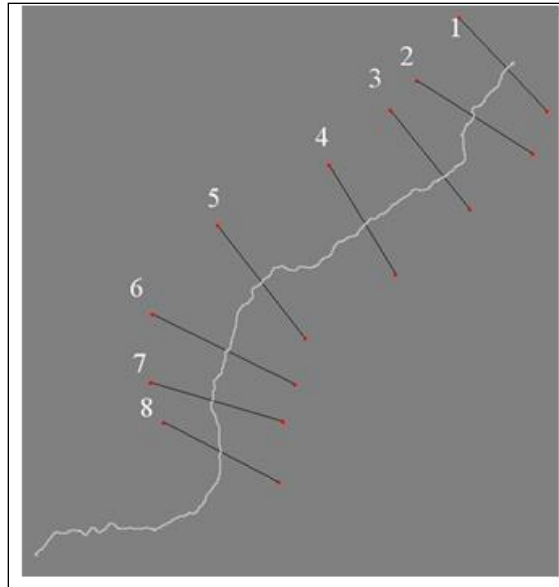

Figure 2-4: Cross Sections on Stream Arc.
16. Using the **Create Feature Arc**  tool, create eight cross sections as shown in Figure 2-4.